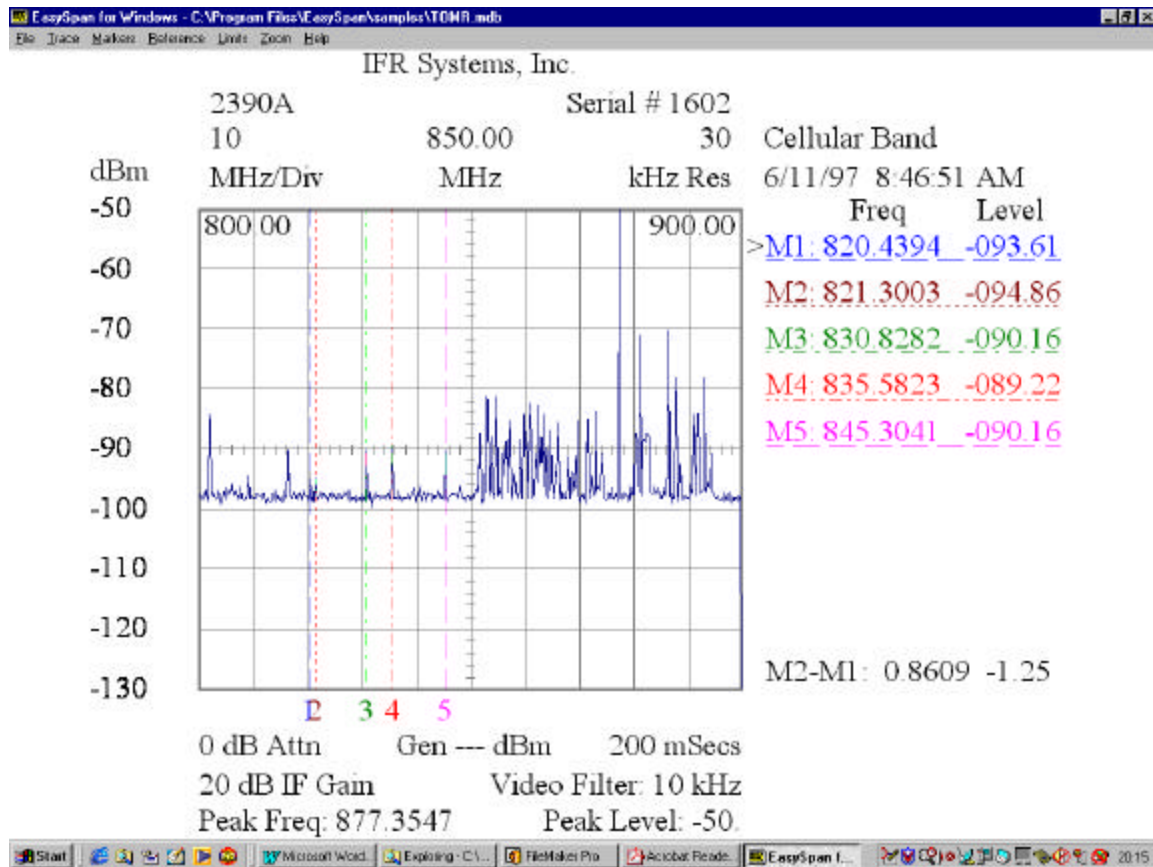

Fig. 2
- 4.9 Fig. 2 is an example of a trace displayed on a PC that was extracted from a spectrum analyzer. The model doing the testing is a 2390A, serial number 1602. The date and time is 6/11/97 and 8:46:51 respectively. The markers easily show frequency and level of five different channels. The difference or delta information of marker one and two is 860 KHz. The complete setup of the spectrum analyzer is shown on the screen.